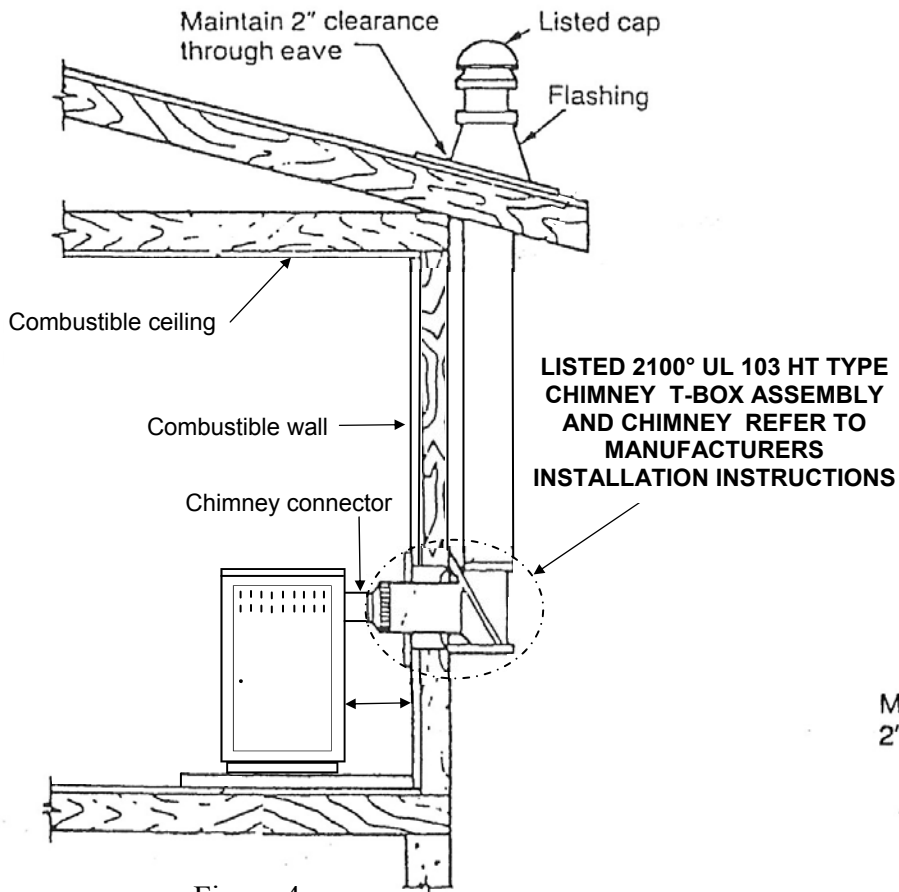

Figure 4
1. Rear exit through wall, exterior chimney outside residence. (See figure 4, Page 8).